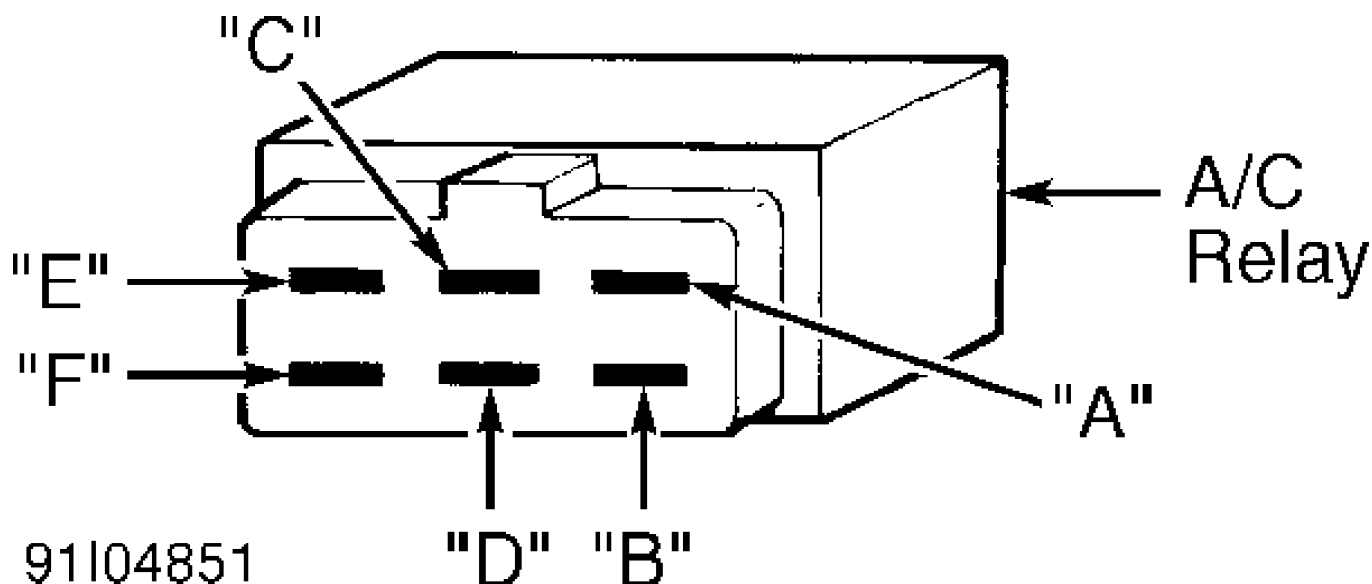

Fig. 2: A/C Relay Connector Terminal ID
1) Remove relay. Check continuity between specified terminals of relay connector. See A/C RELAY TEST table. See Fig. 2. Ensure test lead polarity is correct. If continuity is not as specified, replace relay.